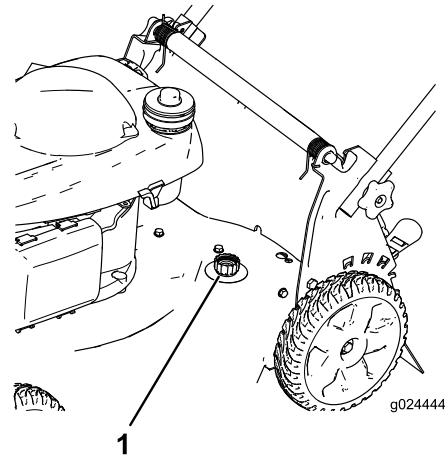

Figure 26
4. Attach a garden hose that is connected to a water supply to the washout port on the machine housing (Figure 26).